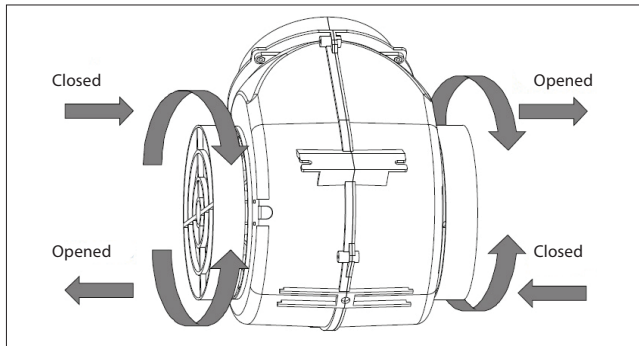

Fig. 2
- 2.The charcoal filters are situated on both sides of the motor. Turn the filters, until they are secured (see Fig. 2).